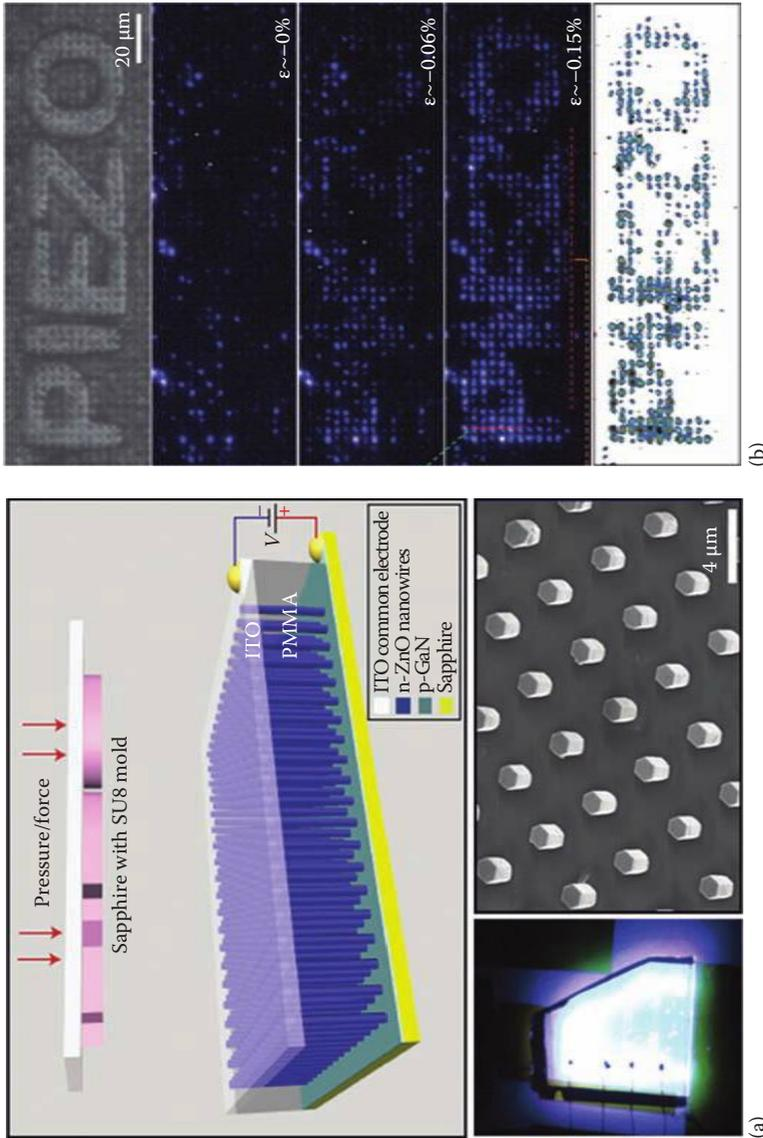

FIGURE 13.33
- High-resolution electroluminescent imaging of pressure distribution using a piezoelectric ZnO nanowire LED array (Figure 13.33).